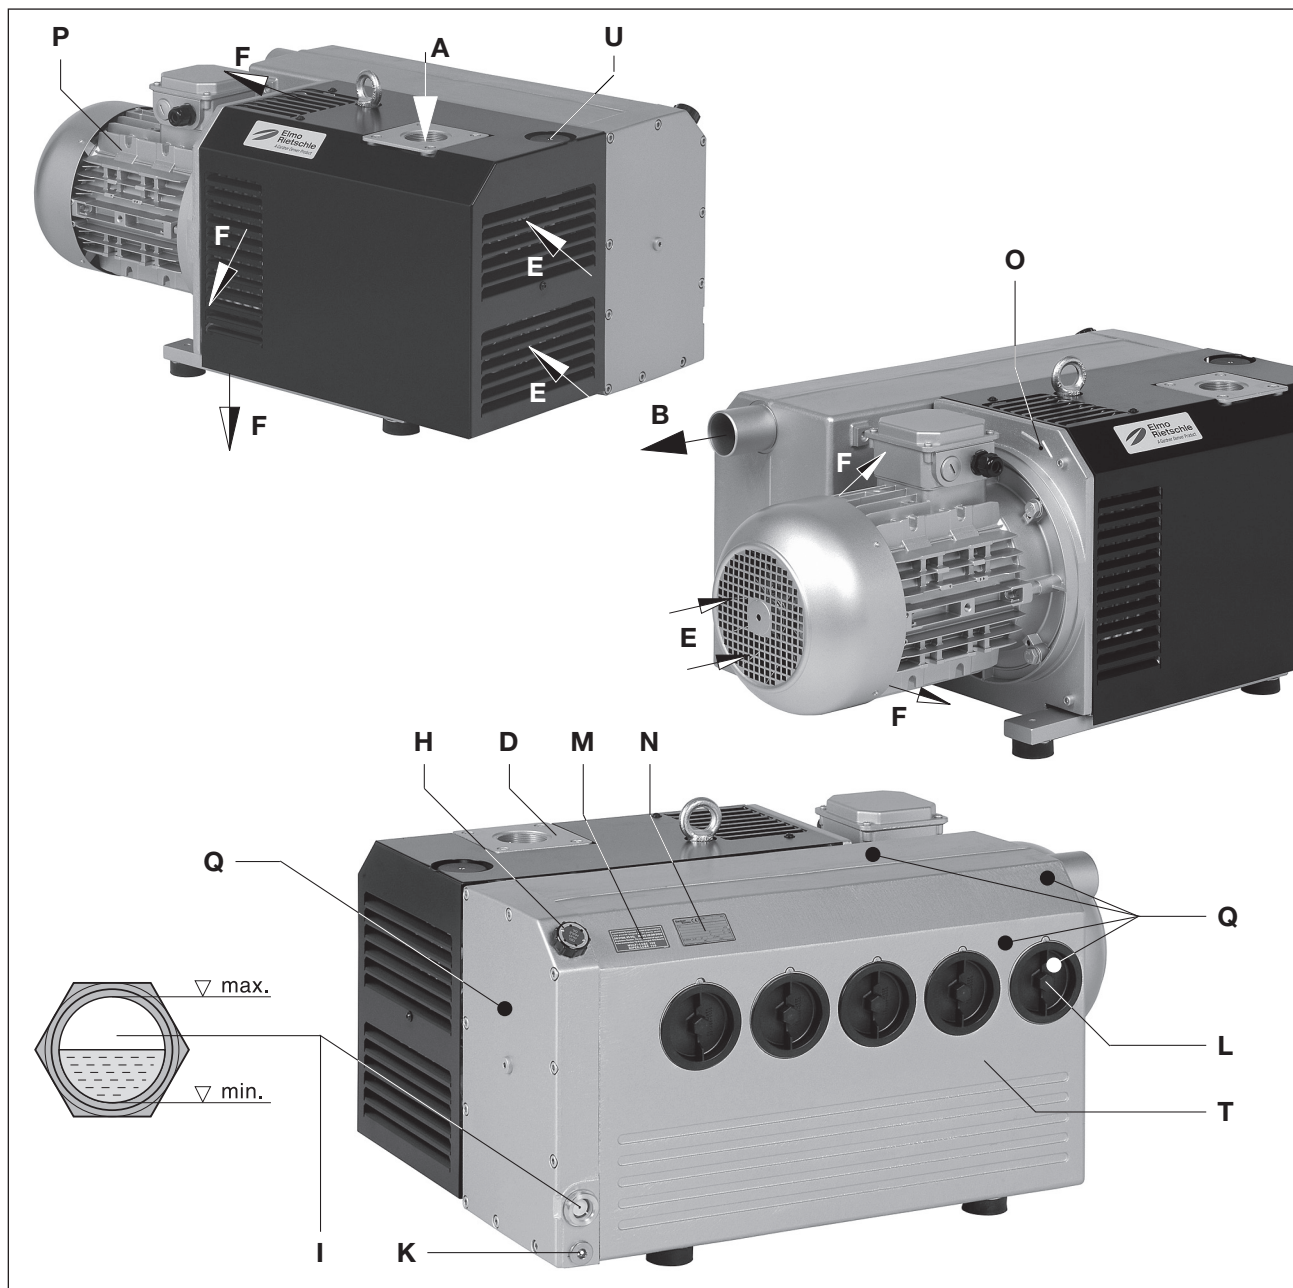

Fig. 2 Vacuum pump V-VC 202 / V-VC 303
A gas ballast valve fitted as standard (Fig. 2/U) prevents condensation of water vapour in the inside of the pump when low amounts of steam are sucked in when the pump is at operating temperature. A reinforced gas ballast (optional) can be used if there is a higher amount of water vapour.
The suction flange (Fig. 2/D), oil filling point (Fig. 2/H), oil sight glass (Fig. 2/I), oil outlet (Fig. 2/K), gas ballast (Fig. 2/U) and the oil removing device housing (Fig. 2/T) must be easily accessible. The cooling air inlets (Fig. 2/E) and the cooling air outlets (Fig. 2/F) must be at least 30 cm away from adjacent walls. Cooling air coming out must not be sucked in again. For maintenance work there must be a space of at least 50 cm around the machine.
**Sealing or constricting of the exhaust air outlet (Fig. 2/B) may lead to severe or fatal injuries!**
- a) The vacuum connection (Fig. 2/A) can be found on the suction flange (Fig. 2/D).
- b) The discharged air can be freely blown out through the exhaust air hole (Fig. 2/B) or conducted away using a hose or pipe.
- a) Fill the lubricating oil (for suitable types see the "Maintenance" section) via the oil filling point (Fig. 2/H) up to the upper edge of the sight glass (Fig. 2/I).
- a) The motor's electrical data is given on the data plate (Fig. 2/N) or on the motor data plate. The motors comply with DIN EN 60034 and are in protection class IP 55 and insulation class F. The appropriate connection diagram is located in the motor's terminal box (not for the plug connection version). Compare the motor data with the data of the existing mains network (current type, voltage, network frequency, permitted current value).
When the machine is at operating temperature the surface temperatures on the components (Fig. 2/Q) may go above 70 °C. You must avoid touching the hot surfaces (marked with warning plates).